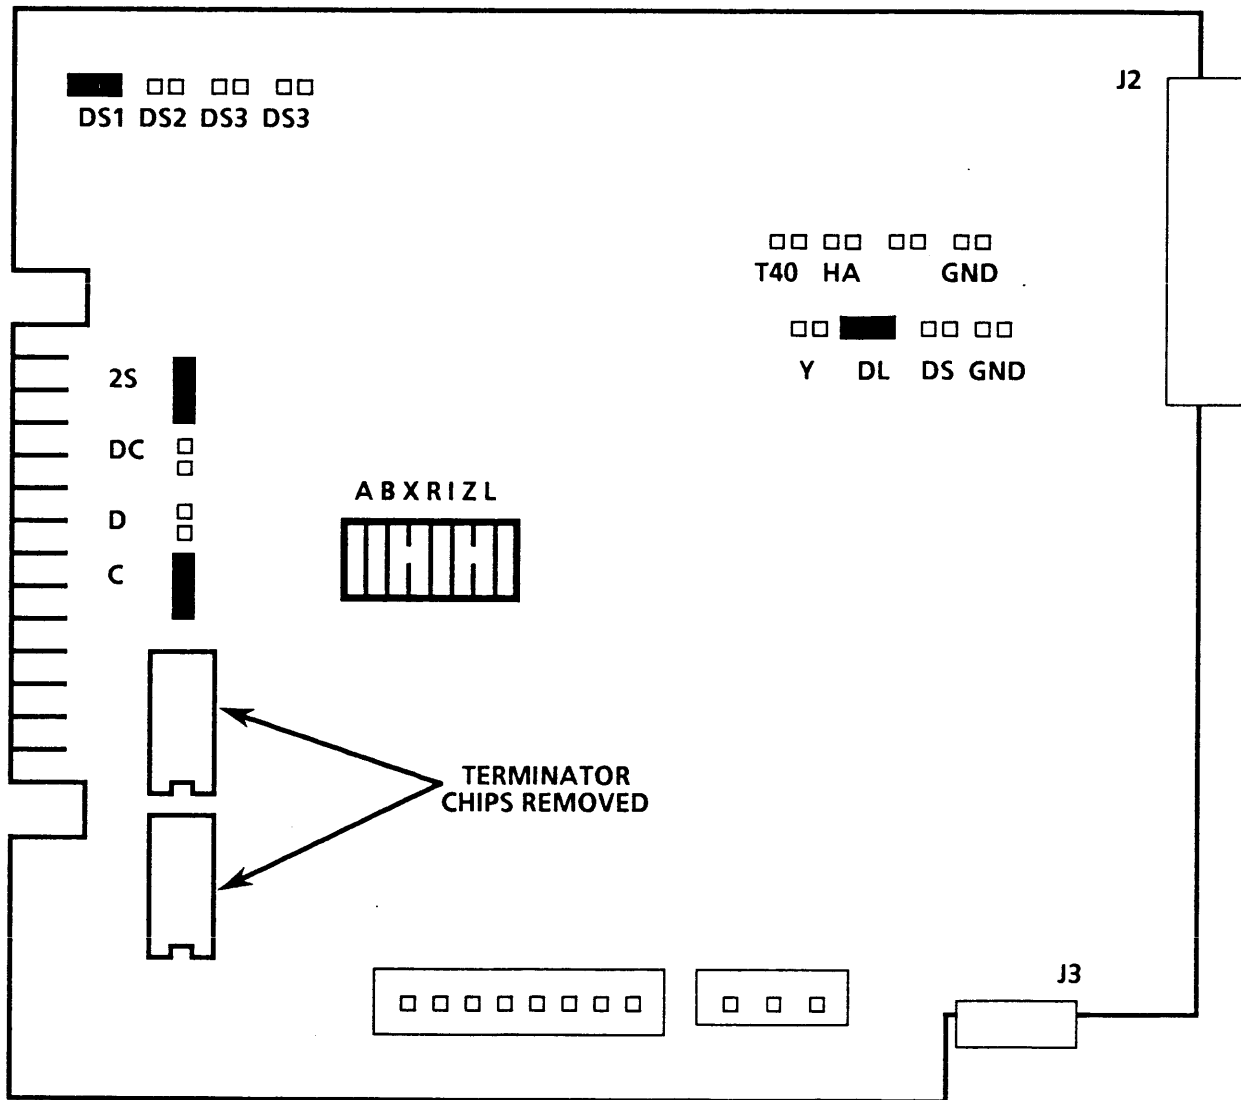
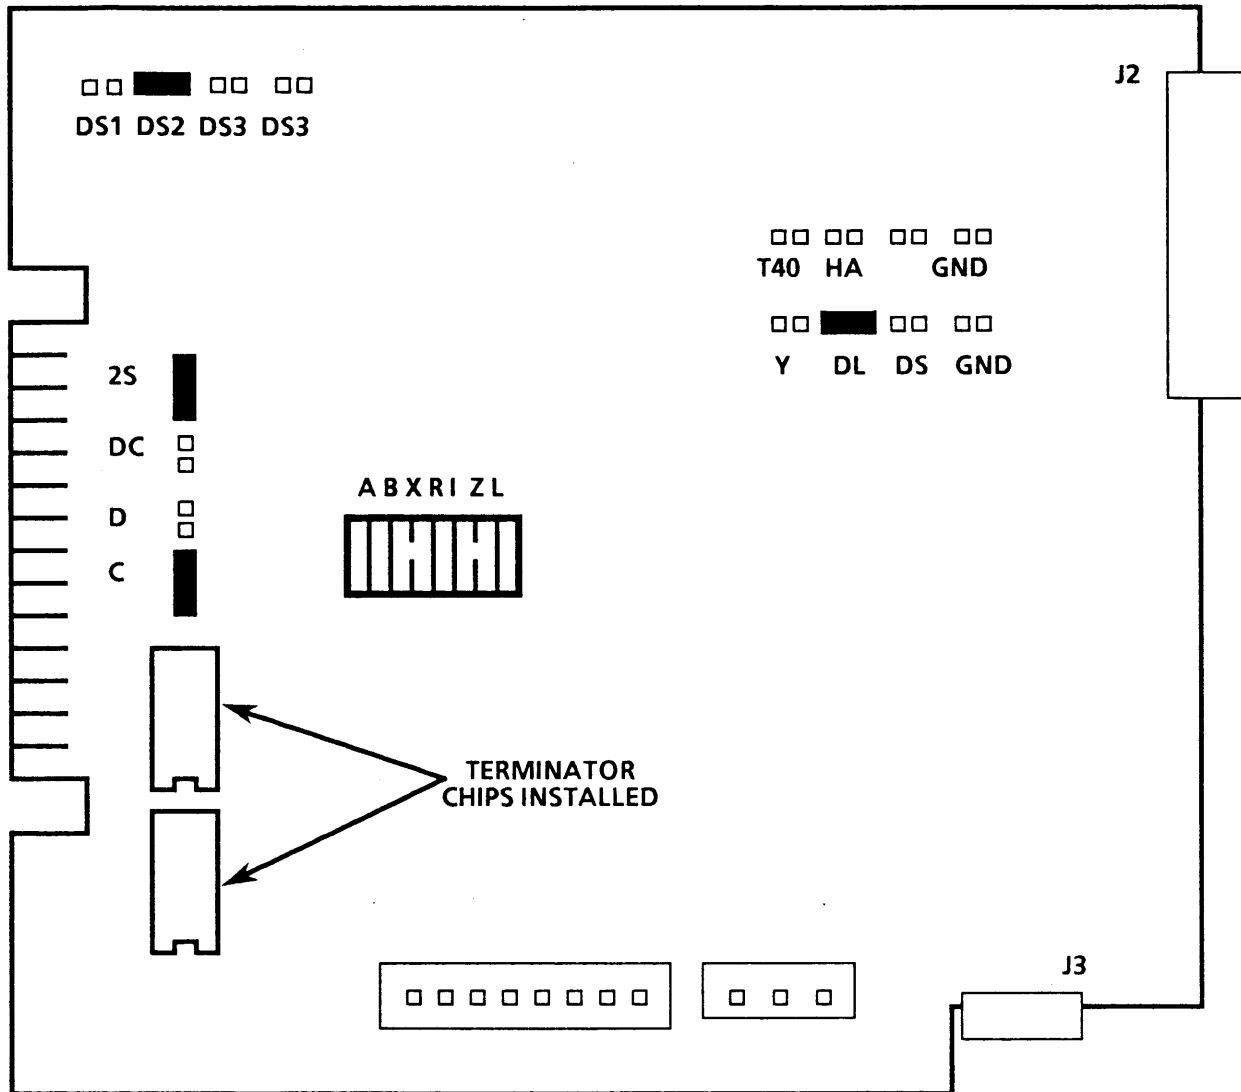

Figure 3-1 Qume Drive Jumpers Locations (Drive A)
Figure 3-2 Qume Drive Jumpers Locations (Drive B)
**REPLACEMENT (FIGURES 3-1, 3-2)**
1. CONFIGURE DISK DRIVE (FIGURE 3-1 OR 3-2).
- a. Refer to Figure 3-1 for Drive A and Figure 3-2 for Drive B.